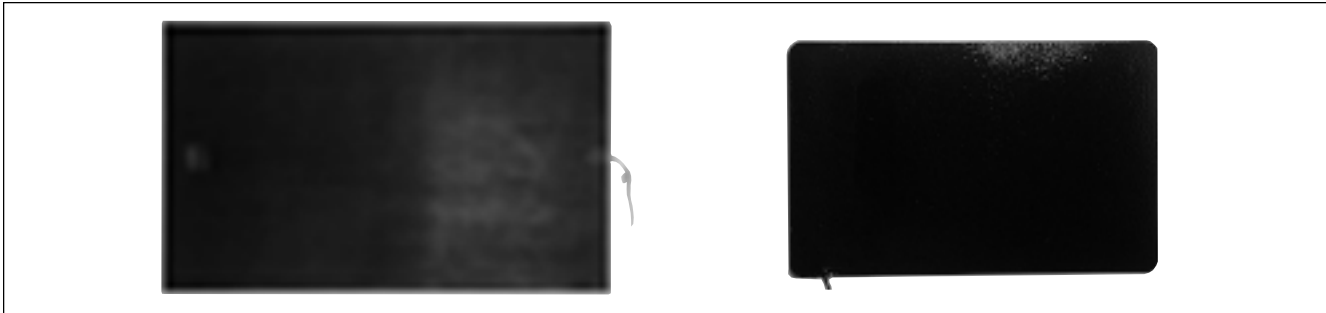

Figure 3 – Exposed rubberized mat (left) and concealed architectural thin mat (right).
**Exposed** – Features one large (57"/1.45m x 27.5"/70cm) mat and two small (44"/1.12m x 27.5"/70cm) mats (see Figure 3, page 2).
**Concealed** – Features one large (56"/1.42m x 21"/53cm) mat and two small (45"/1.14m x 21"/53cm) mats (see Figure 3, page 2).